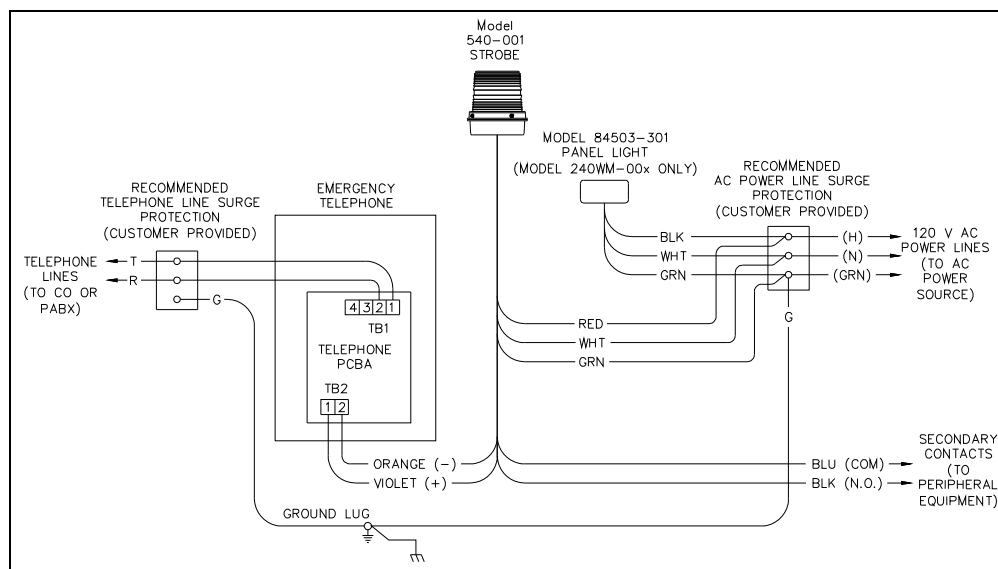

Figure 7. Installation Wiring
Connect the ac input power conductors to the LED beacon and panel light ac power conductors. Be sure to utilize the proper wire colors for each component's power input. An ac power surge protector is recommended for installation. See Figure 7.
5. Bring the orange and violet strobe unit wires through the second rear surface access hole in the back box. Attach the LED beacon violet and orange control wires to TB2 on the telephone PCBA as shown in Figure 7.